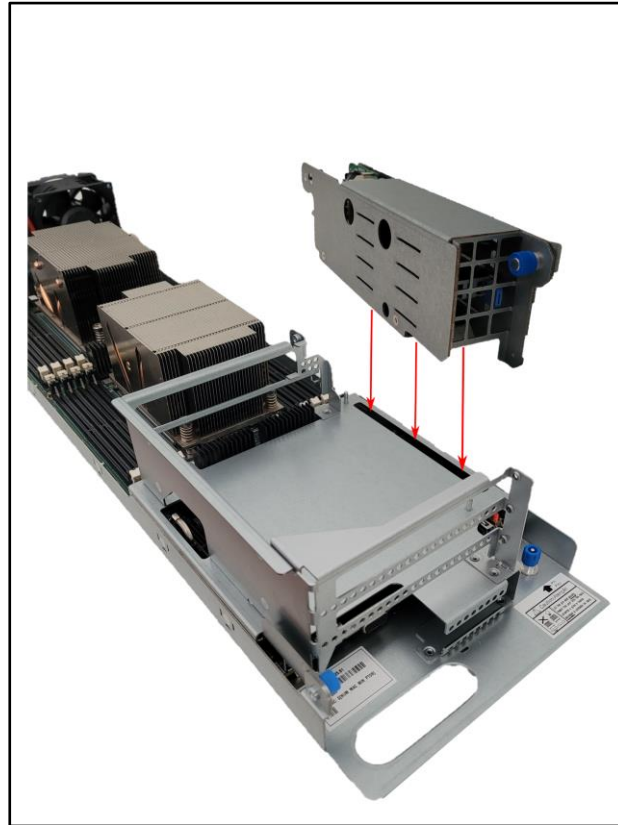

Figure 91: E1.S Cage installation
2. Position the cage E1.S over the DM-SV01 server according to Figure 91.